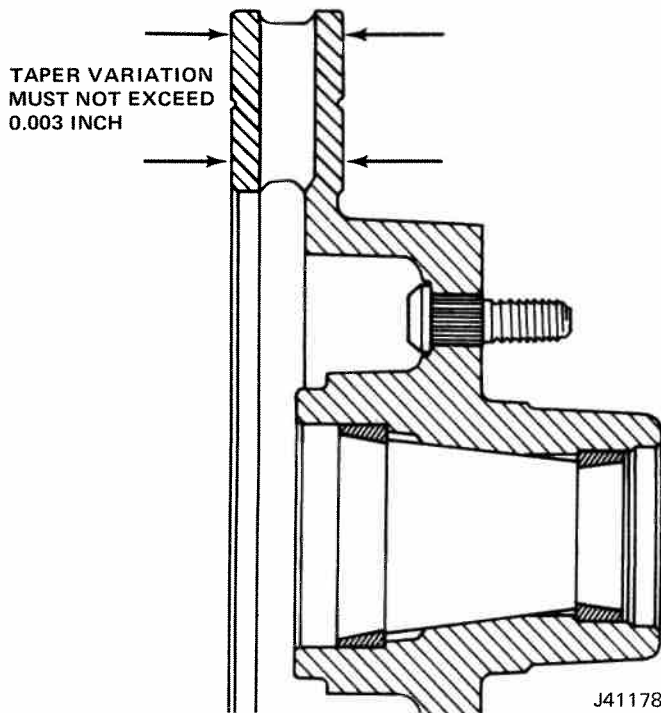

Fig. 9-51 Checking Surface Flatness (Taper Variation)
(2) **Surface Flatness (Taper Variation).** Both surfaces must be flat within 0.003 inch (total) dial indicator runout. Failure to meet this specification indicates surface tapering, which can cause shoes to wear on an angle (fig. 9-51).